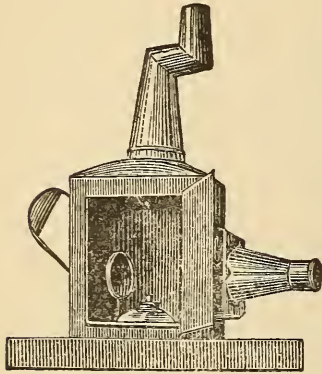

Fig. 1.
1. There was a crooked (jump to Fig. 1 to the word) *man*,
2. There (jump to Fig. 1) was a crooked (2nd jump on Fig. 1) *man*,
(Step to Fig. 7, left foot) And they (right to Fig. 1 to word) all (left to Fig. 2) lived (right to Fig. 3 to) together (left to Fig. 4 to) in a (right behind left to Fig. 5) little (left to Fig. 6) crooked (both feet to Fig. 7) house.
First, then, let us deal with the lanterns illuminated by a lamp burning colza or sperm oil. Of these lanterns there are two subdivisions, those whose condensing lenses are of a size suitable for exhibiting the standard slides (slides three and a quarter inches in diameter), called phantasmagoria lanterns, and lanterns of a smaller size, which may be described as toys, and for which but a very limited variety of slides can be obtained. We give an illustration (Fig. 1) of one of these small lanterns, from which it will be seen that the lamp is of very simple construction, and provided with a silvered reflector behind it. Magic-lanterns, the condensing lenses of which are from one and a half inch to two and a half inches in diameter, are calculated to produce discs of light from four feet to six feet in diameter. Such discs are usually obtained when the distance of the lantern from the screen is about one-third more than the desired diameter of the disc. Lanterns such as these are described, according to their size, by